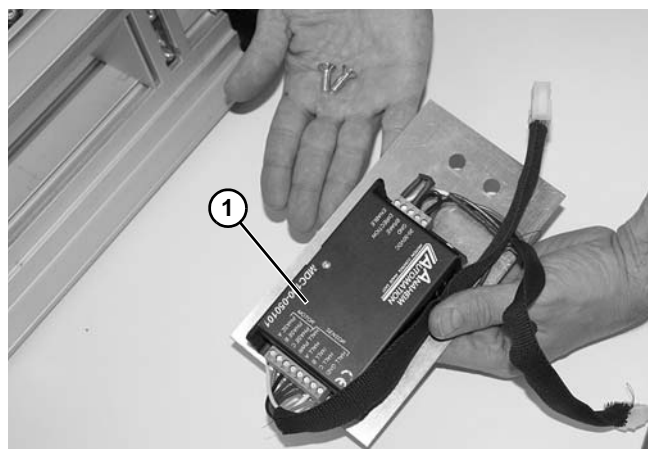

Figure 156
5. Remove control unit (**Figure 156, item 1**) from conveyor frame.